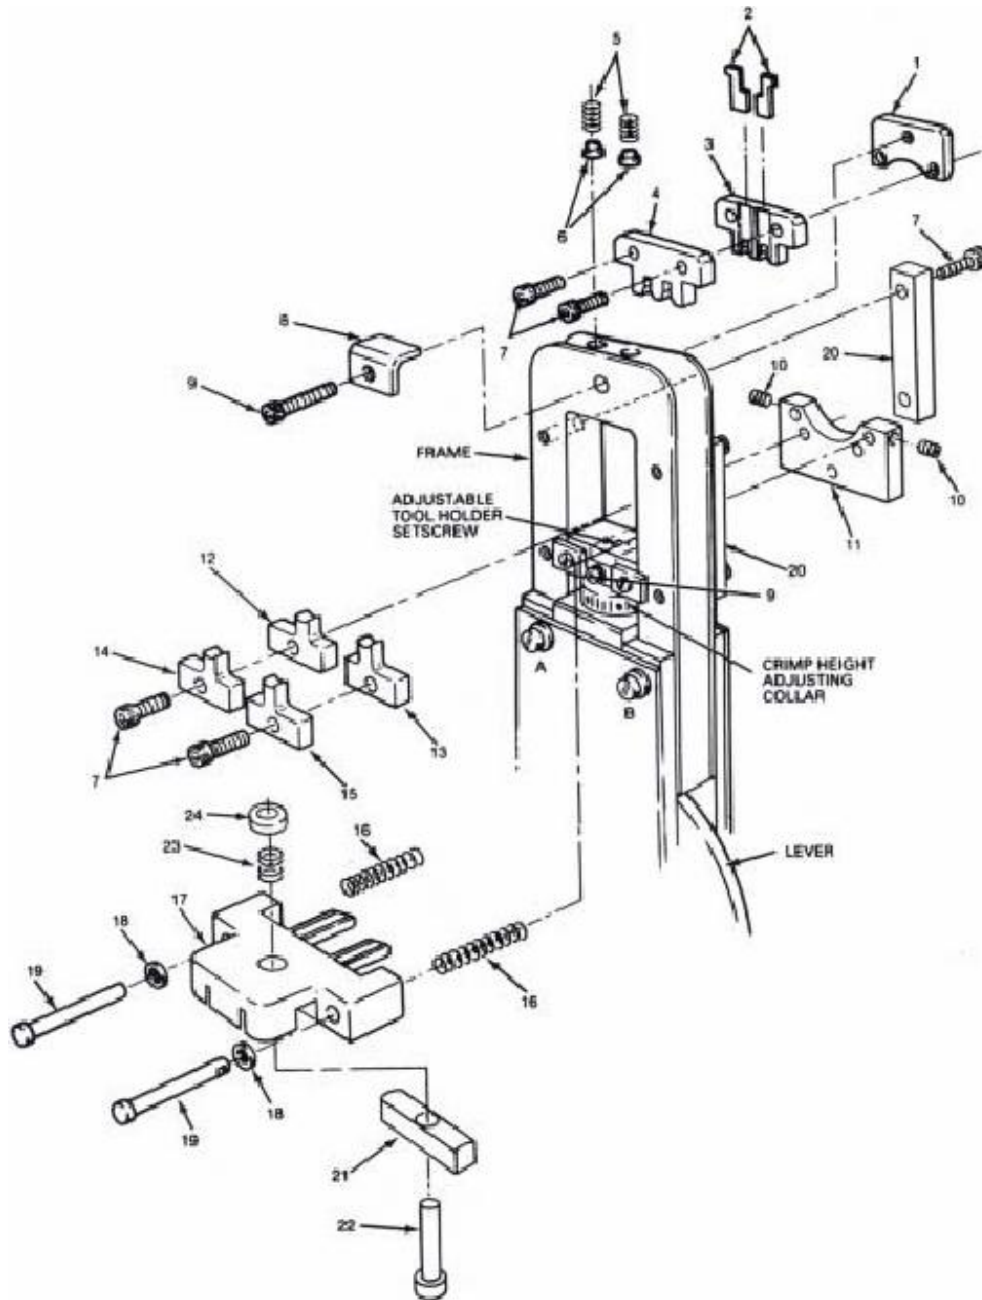

Figure 13. HT-0102 Hand Tool Parts
4.2 Wire and Insulation Barrel Crimpers and Tonker Replacement (see Figure 13)
These are parts that Föhrenbach Application Tooling considers practical for the user to stock for replacement. Recommended spare parts for the hand tool are specified in bold type in the parts list for Figure 13.
Parts List for Figure 13, HT-0102 Hand Tool Parts